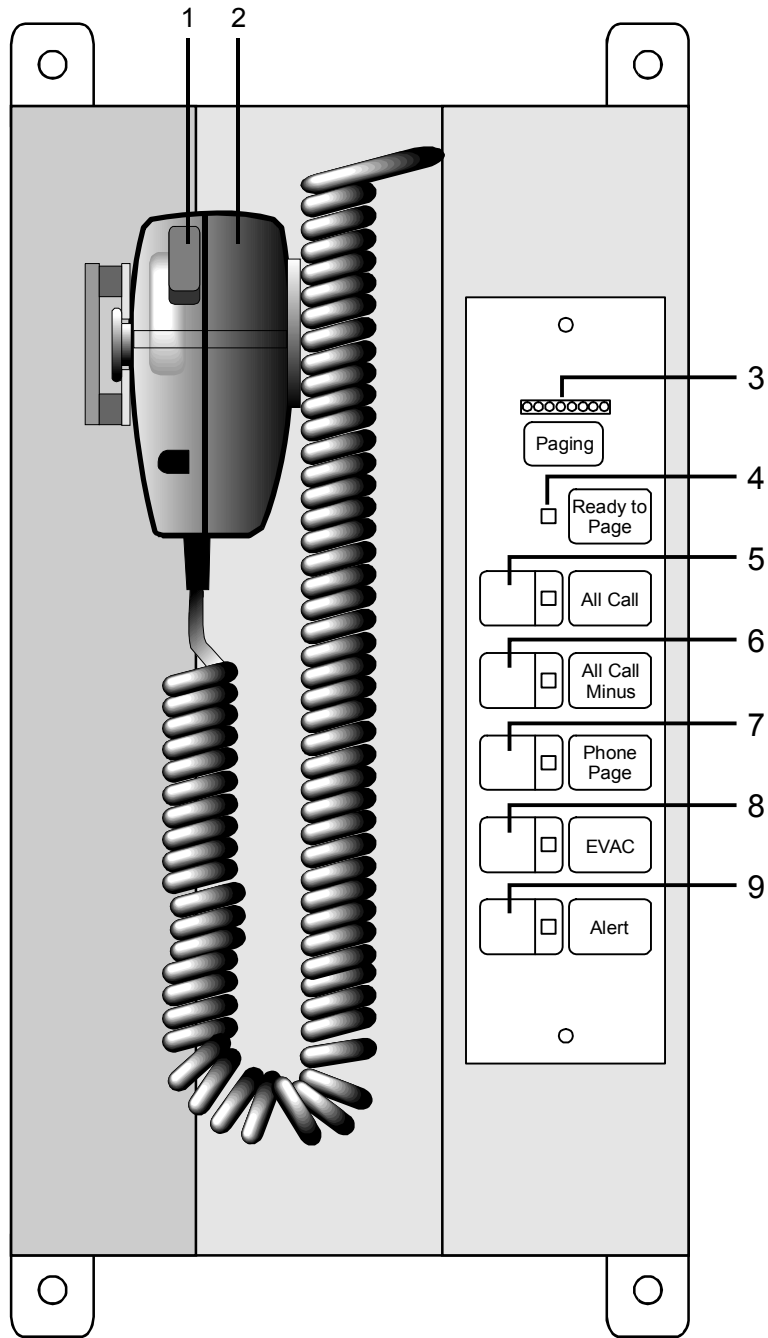

Figure 3-1: 3-ASU controls and indicators
**3-ASU controls and indicators (see Figure 3-1)**